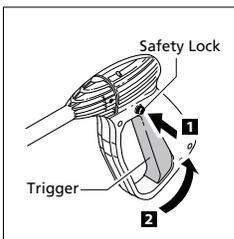

Fig. 4
- To lock the trigger of the spray gun aim the spray gun away from you and push the lock button from left to right, (Fig. 4) after doing so, squeeze or pull the trigger to make sure it is locked and will not move. Get in the habit of leaving the lock button in the “locked” position when the power washer is not in use. This ensures the gun is in “safe” mode until it is ready for use.